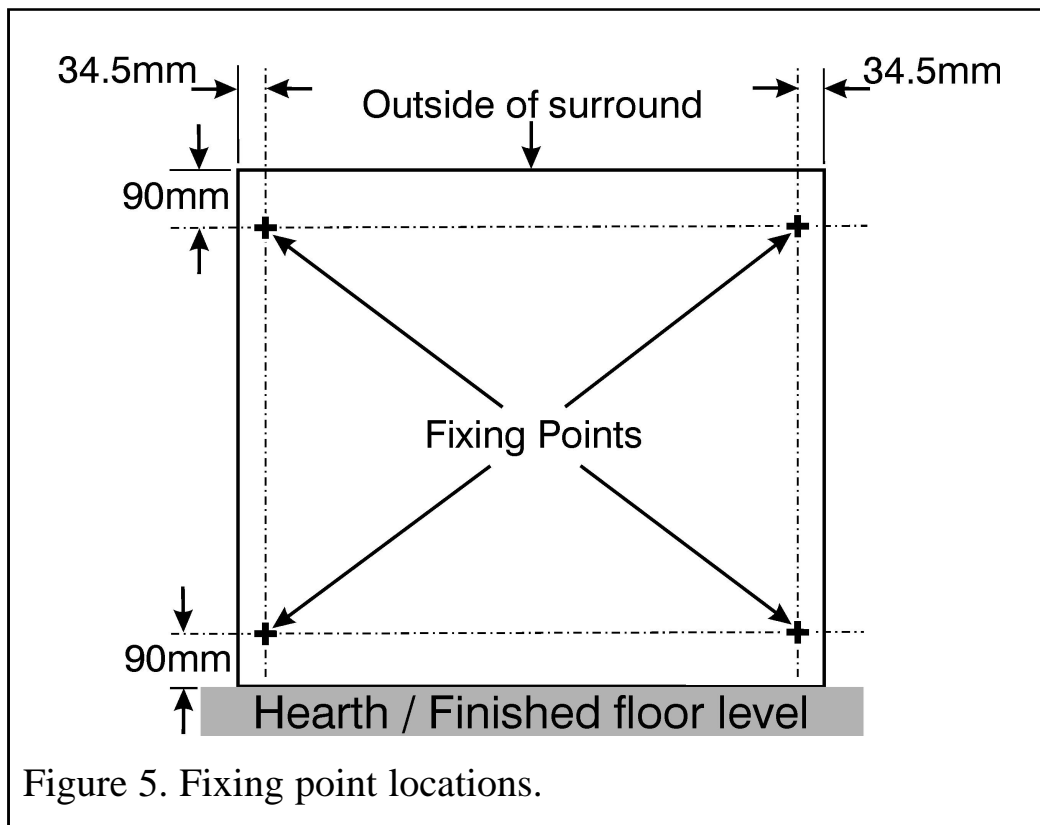

Figure 5. Fixing point locations.
• There are four wall fixing points shown in figure 5. Mark the positions of the fixing points on the wall. Drill suitable sized holes at the fixing points for the wall plugs supplied. Insert four wall plugs (F). Insert four screws (G) leaving approximately 3mm between the wall surface and the rear of the screw head. Lift and position the surround / mantle into position. The screws can be adjusted to obtain the best fit. This will require removal of the surround / mantle.